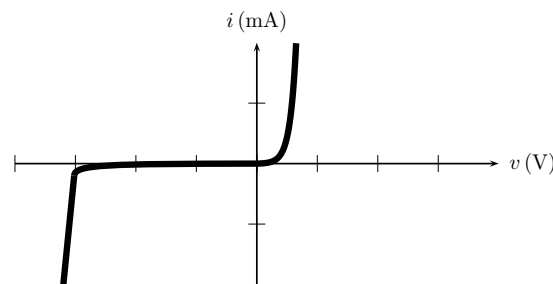

Figure FE-2.2: Generic (i.e., not to scale) Zener current-potential curve.
This circuit not only has considerably fewer components than the regulators we built in class, but it uses *different* components. Recall that a generic *forward* $i-v$ curve for a Zener diode is shaped like Figure FE-2.2.
*HINT: Acceptable answers somehow involve [Figure FE-2.2 and Equation \(FE-2.1\). They describe the property of the element that controls the **line** regulation.]*